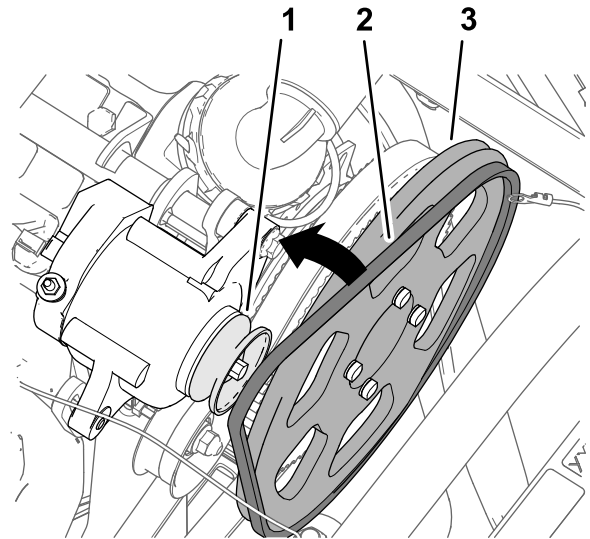

Figure 182
3. Assemble the V-belt over the drive pulley 279 mm (11 inch) and the pulley of the alternator (Figure 182).